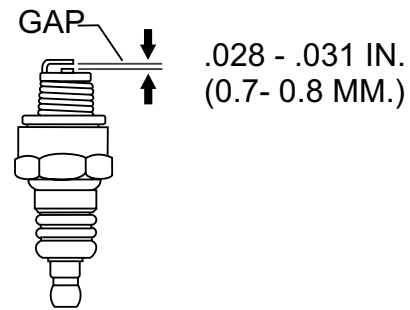

Figure 50. Spark Plug Gap
1. Remove and clean spark plug (Figure 50) with a wire brush if it is to be reused. Discard spark plug if the insulator is cracked or chipped.